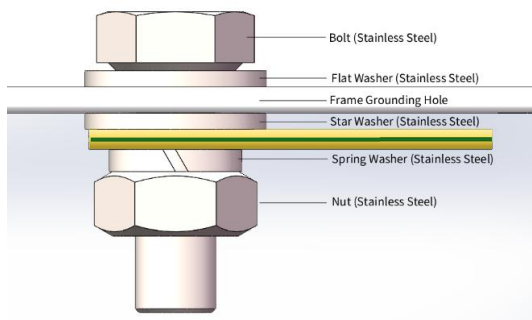

Figure 20 Schematic diagram for installation of grounding wire fastened by bolt
- It is not allowed to use different models of modules in the same solar PV system. When modules are connected in series, the voltage of every string shall not be higher than the maximum voltage of the system (as shown in Figure 20). Please refer to the national, regional or local specifications for details.